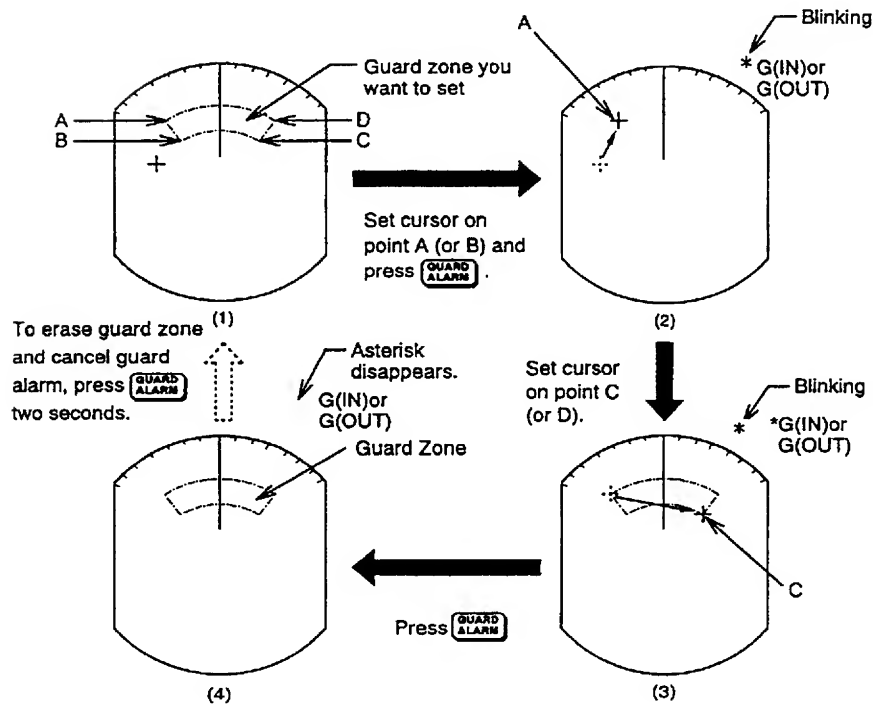

Figure 1-18 How to set the guard zone
- 2) Referring to (1) in Figure 1-18, operate the trackball to set the cursor on point A or B. Press the **GUARD ALARM** key. “*G (IN)” or “*G (OUT),” with asterisk blinking, appears at the top right-hand corner of the display. See Figure 1-18 (2). (The asterisk indicates the guard zone is partially set.)
- 3) Operate the trackball to set the cursor on point C or D. See Figure 1-18 (3).
- 4) Press the **GUARD ALARM** key. The asterisk disappears. See Figure 1-18 (4).